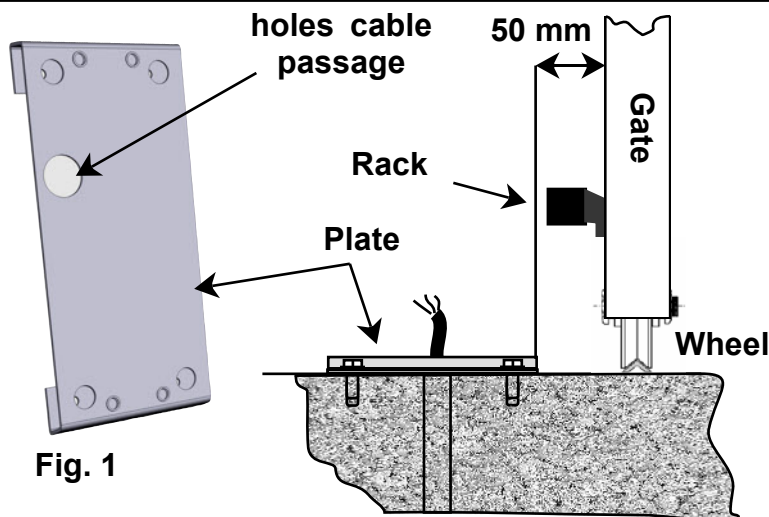
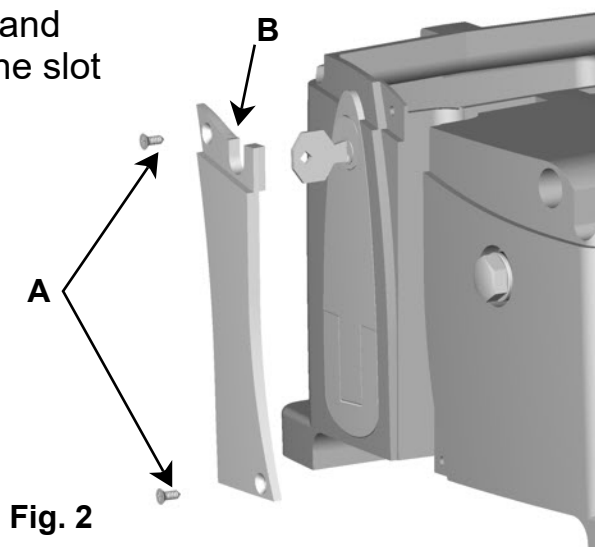
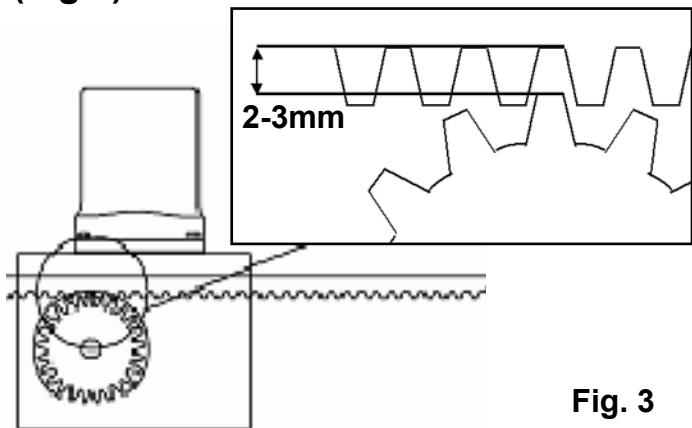

Fig. 1
Fig. 2
Fig. 3
- Also check that the runner on the ground (**Fig. 1**) is not deformed, is perfectly level and that the mechanical stop is present on opening (**Fig. 2**) in order to **prevent** the gate from going beyond the upper runners (**Fig. 3**)
- Check the upper runner (**see Fig. 3**) is firm and the gate slides freely.
Position the plate provided **(Fig. 1)** 50 mm from the edge of the gate and perfectly square at an angle of 90°.
Remove the cop cover, unscrew the screws **A** and remove the cover **B** and route the cables into the slot of the motor. **(Fig.2)**.
Fasten the rack to the gate firmly, leaving a distance of between 2 and 3 mm from the motor pinion **(Fig.3)**.